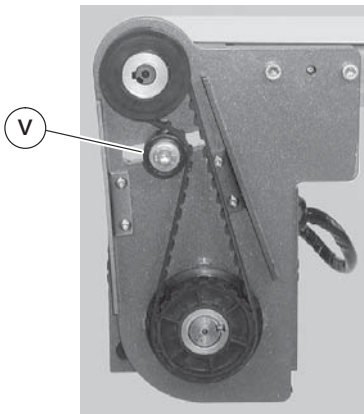

Figure 15
2. Loosen tensioner (Figure 15, item V).
5. Loosen tensioner (Figure 15, item V).